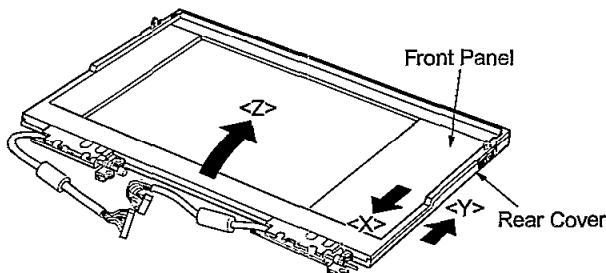

Figure 26
- (3) Remove six screws <A> ( $\varnothing 2 \times 3$  mm).
- (4) Sufficiently slide the Front Panel in the direction of the arrow <X> and slide the Rear Cover in the direction of the arrow <Y> alternately as shown in Figure 26.
- (5) Raise the Front of the display panel in the direction of the arrow <Z> and remove it as shown in Figure 26.
- (6) Turn over the Front panel and remove four screws  ( $\varnothing 2 \times 3$  mm).
- (7) Detach the cables for FL inverter and LCD control from CN2 and CN1.
- (8) Remove the LCD from the Front Panel.